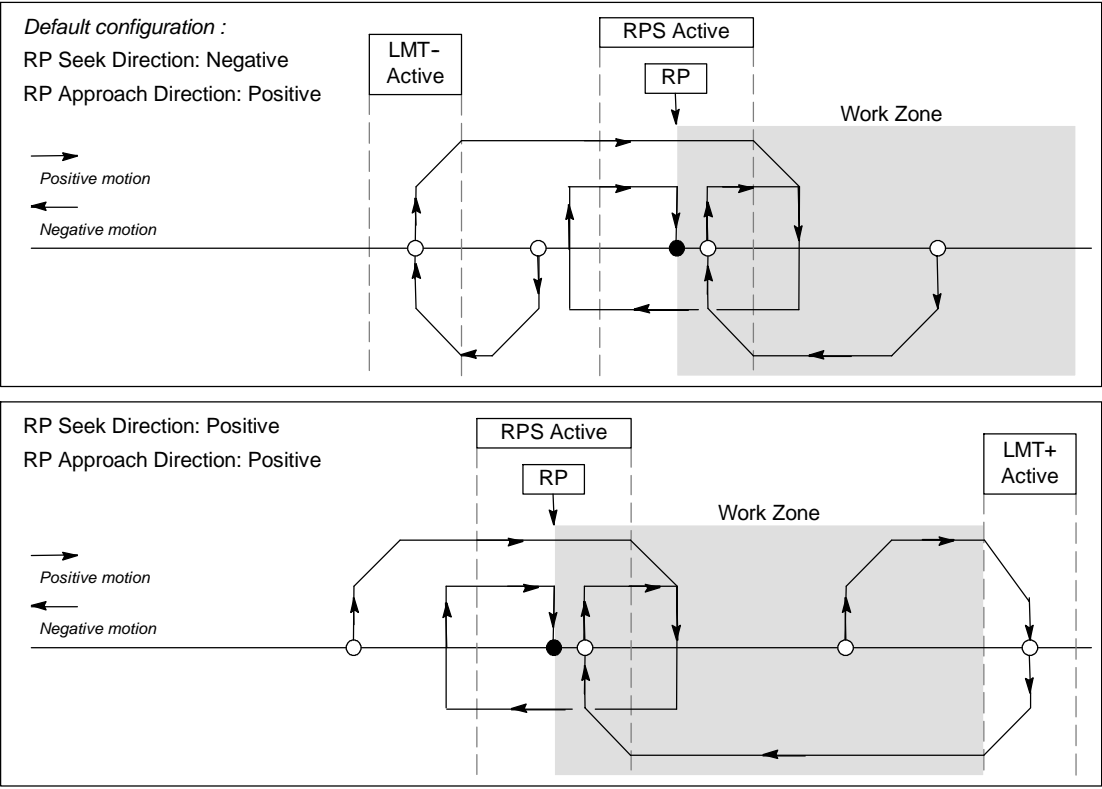

Figure 9-22 RP Seek: Mode 2
- ❑ Figure 9-22 shows two of the options for RP seek mode 2. This mode locates the RP in the center within the active region of the RPS input.